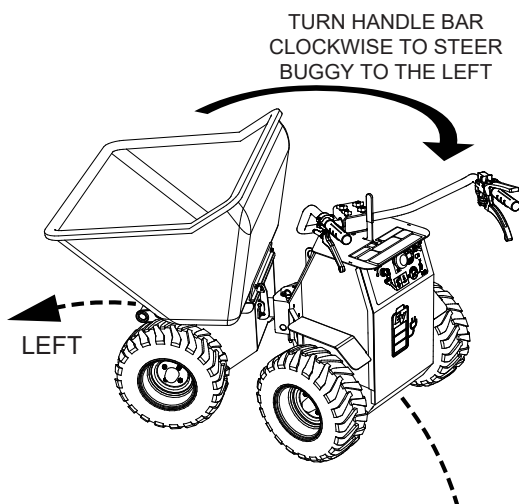

Figure 10. Steering the Buggy (CW-Left)
1. To turn left (Figure 10) when traveling in the forward direction, turn the handle bar clockwise.